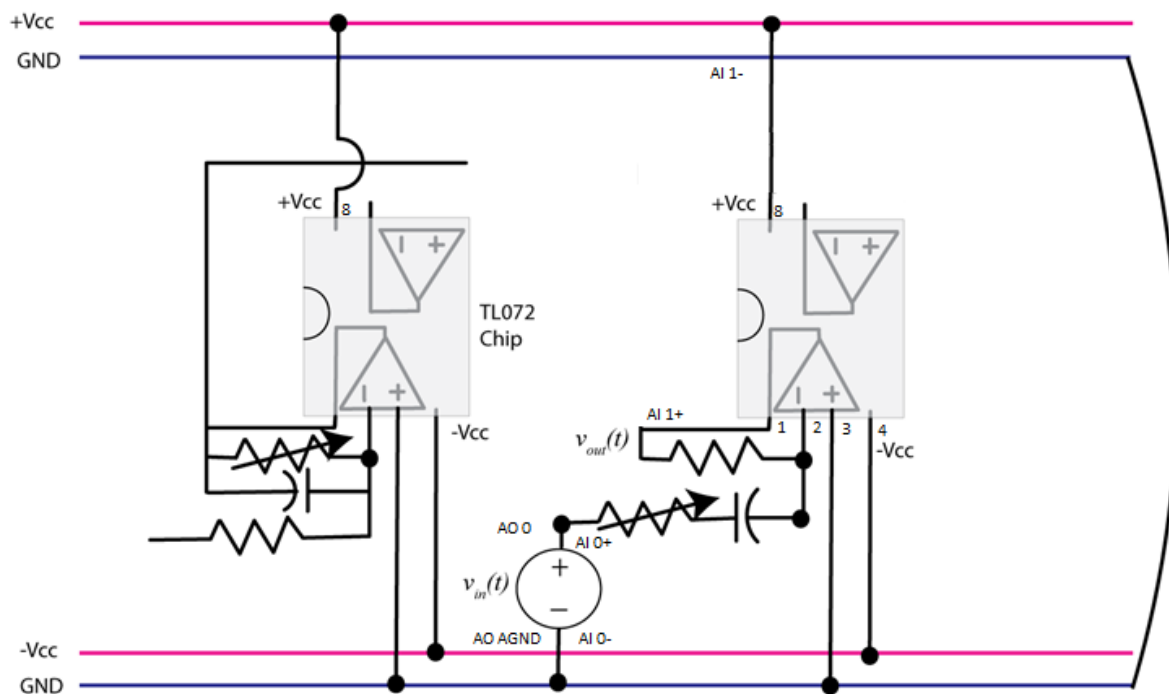

Figure 9: lowpass and highpass subsystems
1. Now build the highpass filter as shown in Figure 9 on the second TL072 op amp. Do not connect the two subsystems yet.